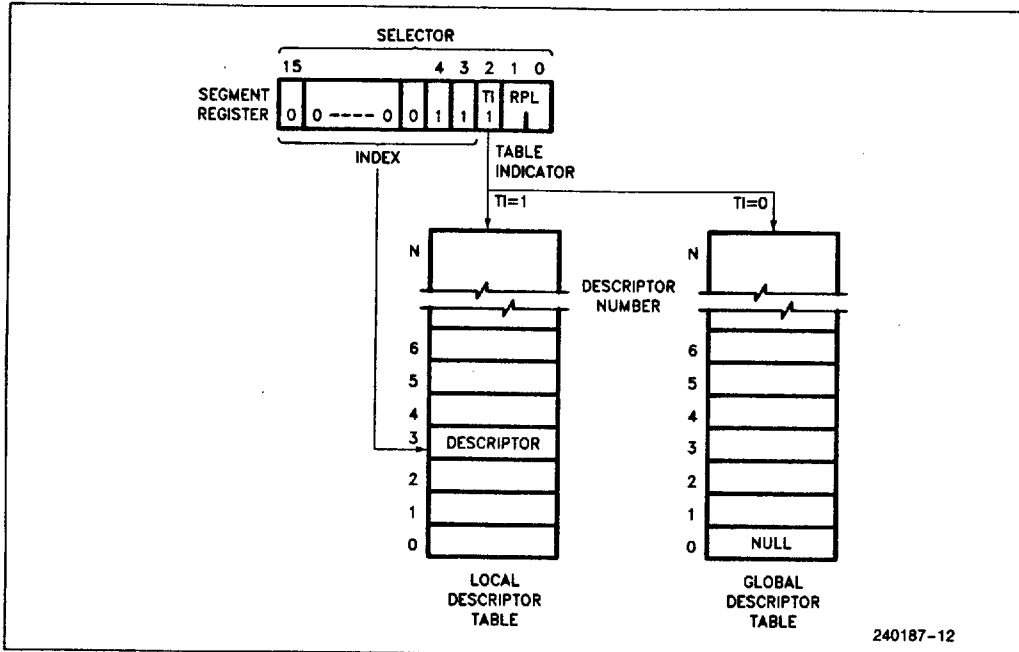

Figure 4.7. Example Descriptor Selection
A selector in Protected Mode has three fields: Local or Global Descriptor Table indicator (TI), Descriptor Entry Index (Index), and Requestor (the selector's Privilege Level (RPL) as shown in Figure 4.7. The TI bit selects either the Global Descriptor Table or the Local Descriptor Table. The Index selects one of 8k descriptors in the appropriate descriptor table. The RPL bits allow high speed testing of the selector's privilege attributes.